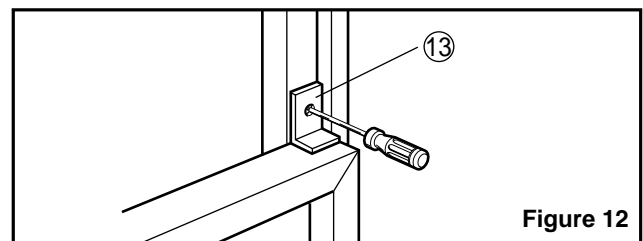

Figure 12
12. Attach the window Locking Bracket ⑬ with a type C screw. (See Fig. 12)